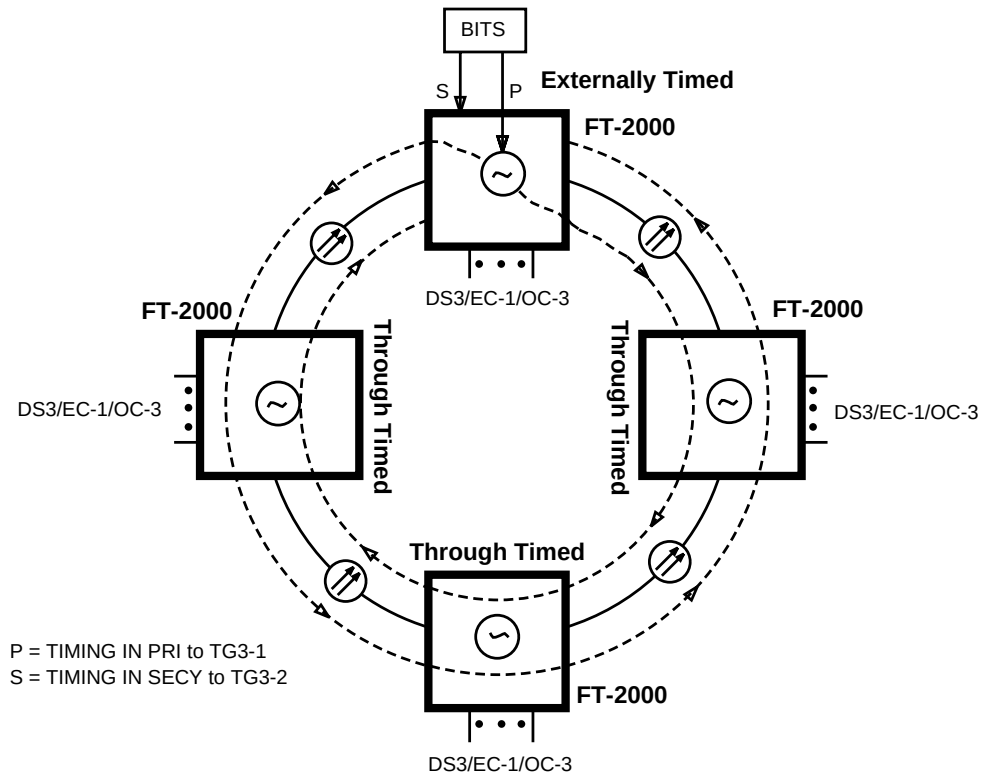
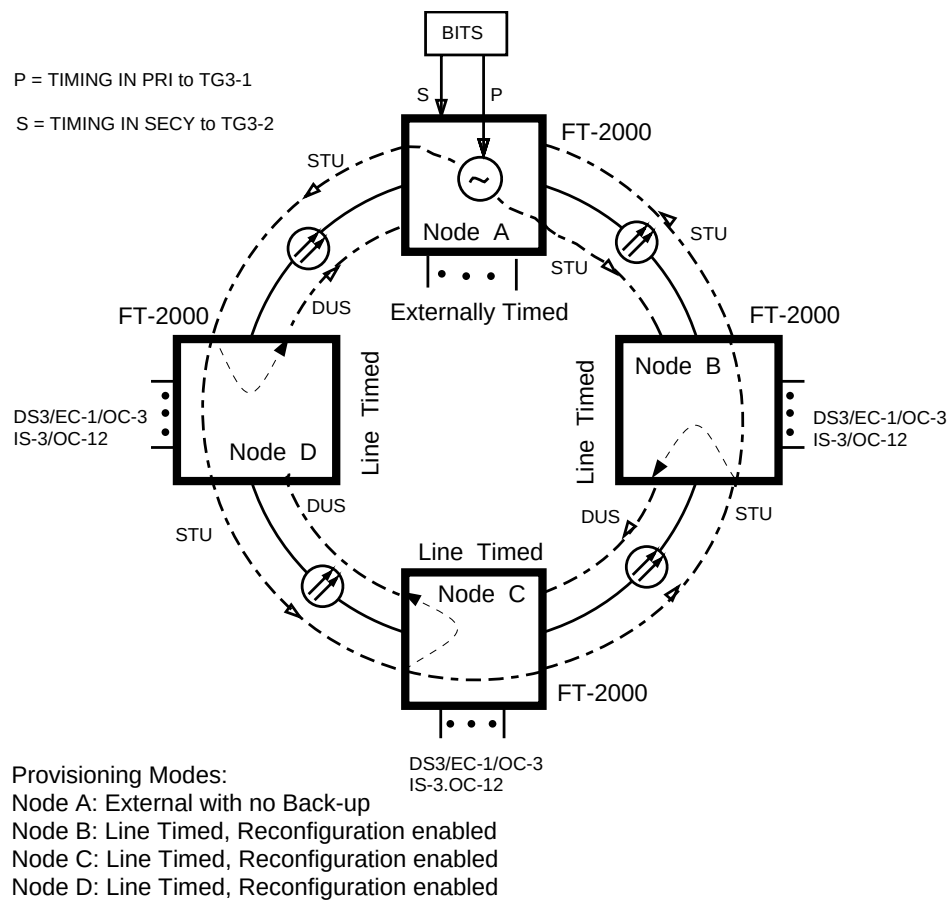
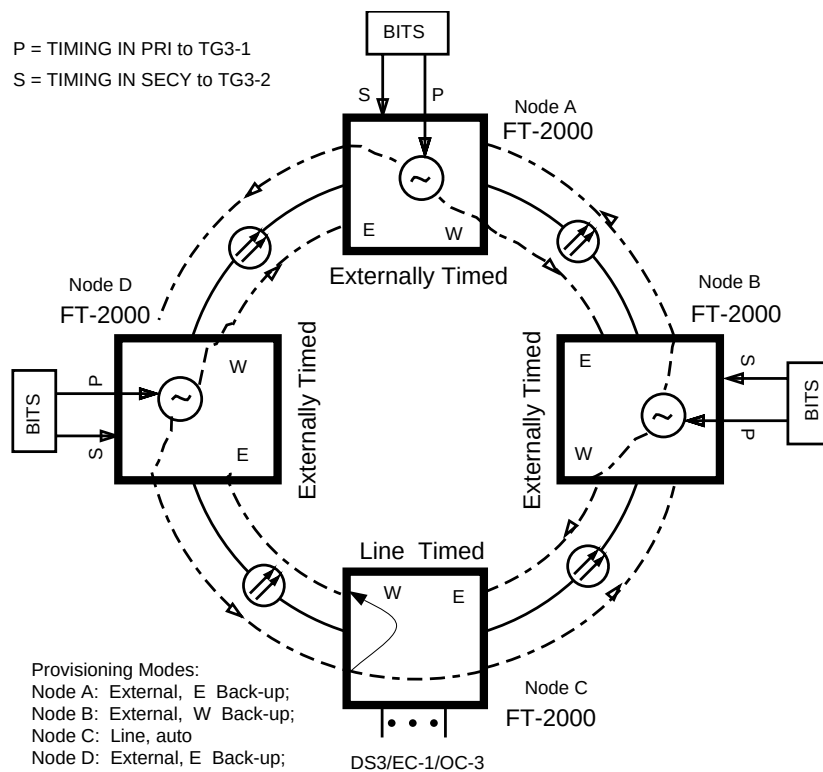

Figure 5-18. Example of a Ring Application with One Node Provisioned Externally Timed and All Other Nodes Provisioned Through Timed (Without Timing Drops)
Figure 5-19. Example of a Ring Application with One Node Provisioned Externally Timed and All Other Nodes Provisioned Line Timed (Without Timing Drops)
Figure 5-21. Example of a Ring Application with Three Nodes Provisioned Externally Timed and One Node Provisioned Line Timed (Without Timing Drops)
- **One node provisioned externally timed; all other nodes provisioned through timed, line timed, or externally timed:** This configuration (Figure 5-18, Figure 5-19, Figure 5-20, and Figure 5-21) are used with asynchronous (DS3) or synchronous (EC-1, OC-3 and/or OC-12) low speed interfaces, or a mix of synchronous and asynchronous low speed interfaces. These configurations also prevent the need of having to reprovision a node when synchronous low speed interfaces are added. The timing signals used to synchronize the externally timed nodes (phase locked in releases prior to Release 5) should be traceable to a high quality source(s). If synchronous low speed interfaces are present, the timing signals must be traceable to a stratum 1 source. If only asynchronous low speed interfaces are present, the timing signals must be traceable to a stratum 3 or better source. The quality and source of the timing signals must be engineered appropriately. The guidelines for choosing the timing source(s) and the BITS clock configurations are beyond the scope of this document.
In (Figure 5-19) synchronization messages (DUS and STU) are shown as they are transmitted on the OC-48 line.
In rings with two or more external timing sources (for example, BITS clocks) available at more than one node, it is recommended to use the backup feature to provide reliability in the event of a failure. The provisioning modes, which are labeled in Figure 5-21, demonstrate this concept. Care should always be exercised to avoid timing loops.